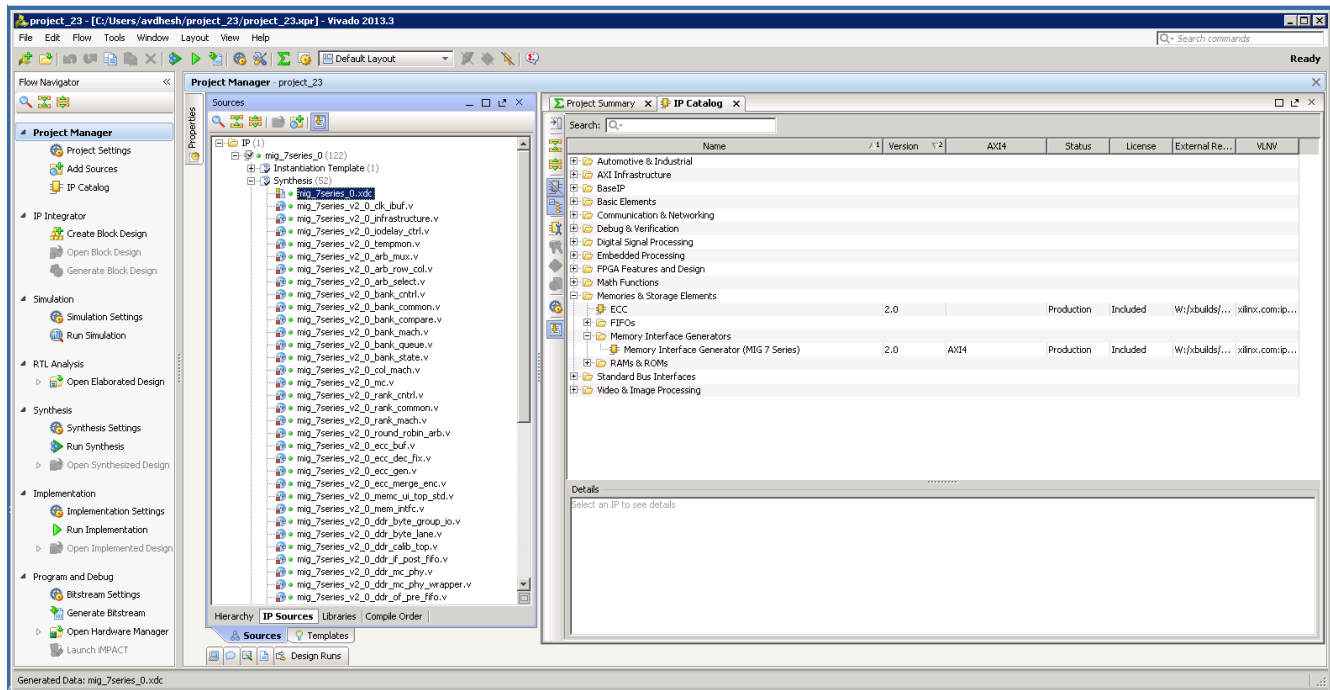

Figure 5-23: Generate RTL and Constraints
6. All MIG generated user design RTL and XDC files are automatically added to the project. If files are modified and you wish to regenerate them, right-click the XCI file and select **Generate Output Products** (Figure 5-23).